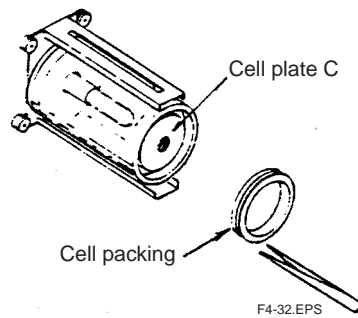

Figure 4.32
5. Remove cell packing with tweezers. (Figure 4.32)